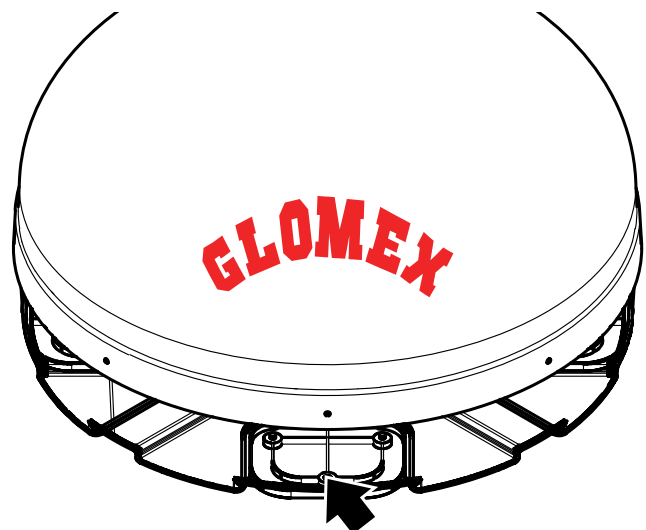

Fig. 9
6. OPTIONAL OPERATION: remove the plates by unscrewing the 2 nuts securing them to the lower radome. Drill the lower radome with an 8 mm bit near the punching, put back the plates and drill near the previously made holes, again using an 8 mm (**Fig. 9**) bit.